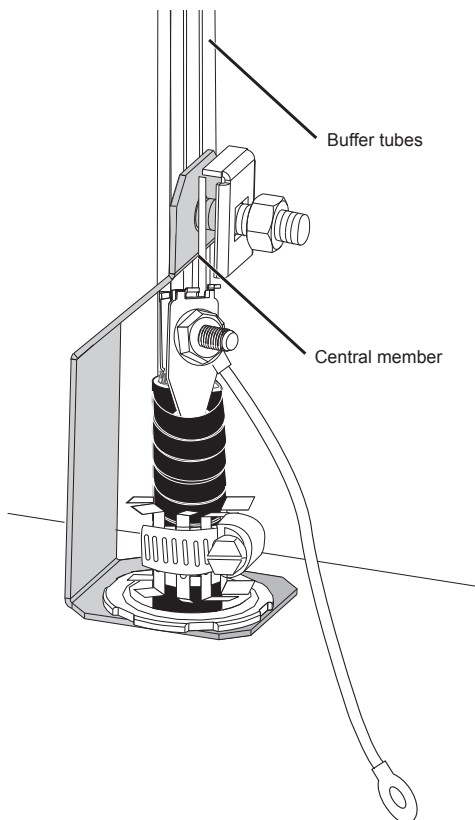

Figure 5
- c. Position the central member underneath the square washer and tighten hex nut to secure (Figure 5).